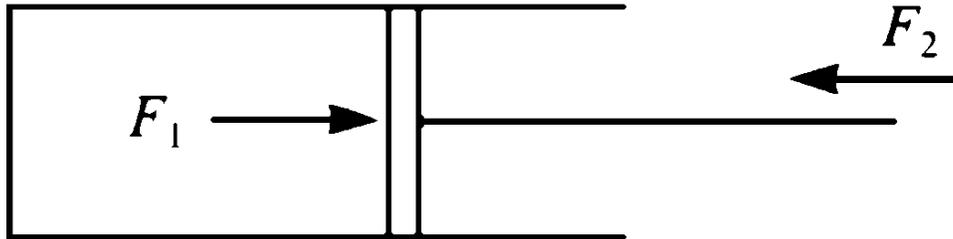
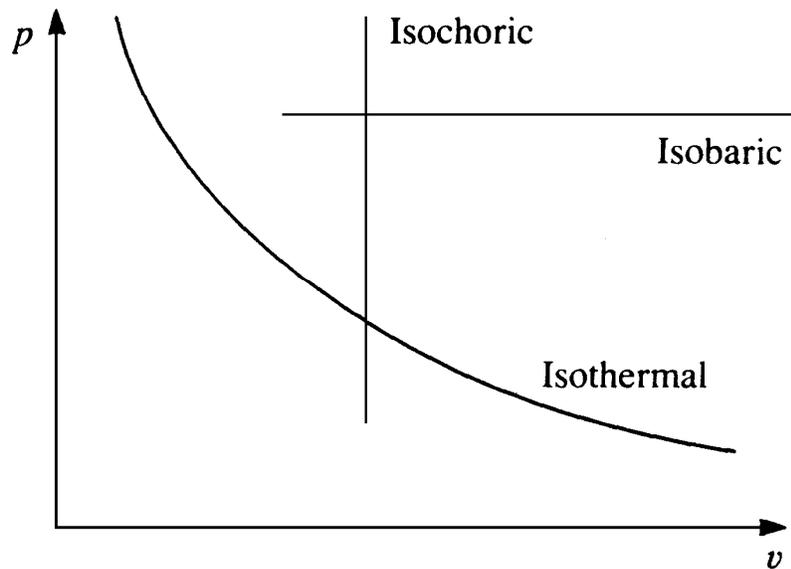

Figure 3 A cylinder containing compressed gas is confined by a movable piston
Figure 4 Various types of process on a p - v diagram
3. Figure 3 shows compressed gas in a cylinder. A force has to be applied to the piston to keep the gas compressed. Now if the force exerted by the gas on the piston is F_1 and the external force applied to the piston is F_2 , and if F_1 is very slightly greater than F_2 then the piston will move slowly upwards and the gas will gradually expand. The pressure energy of the gas in the cylinder (a form of mechanical energy) is being converted into another form of mechanical energy as the force F_2 is pushed back - perhaps the piston is pushing against a spring. This slow expansion and inter-conversion of mechanical energy is another example of a reversible process. If now F_2 is very slightly greater than F_1 the gas in the cylinder will be slowly recompressed. Again friction, this time between the piston and the cylinder will tend to cause irreversibility.
4. Alternatively the restraining force on the piston in Figure 3 could be suddenly removed, and the gas in the cylinder allowed to expand quickly. The pressure energy of the gas has decreased, but what has happened to the energy? It has been dissipated in friction at the walls of the cylinder, and in friction between rapidly moving adjacent streams of gas by means of viscous dissipation. The mechanical pressure energy has been turned into heat energy, and so the process is an irreversible one. Expansion of a gas in a cylinder, as in Figure 4 can only be reversible if the expansion is **fully resisted**, in other words if the forces acting on the cylinder are opposite and almost equal.